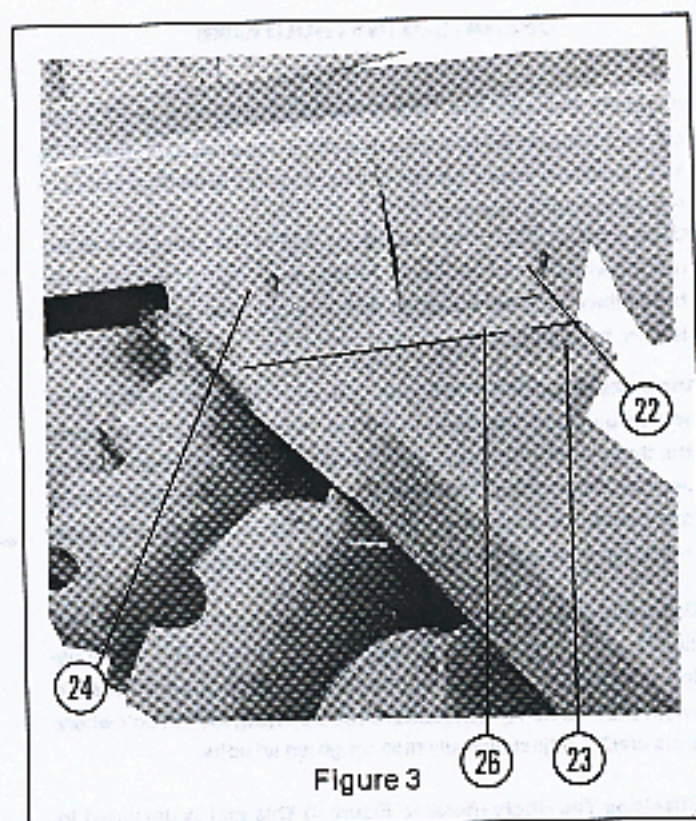

Figure 3
3. **Offsetting Rear Gang Bar:** (Refer to Figure 3) for ordinary conditions bolt(22) should be in the centre of lateral plate(23). When using disc as a double wide unit the rear gang bar is adjusted to maximum width to fill furrow. Remove two bolts(22), loosen bolt where slots are(24), adjust laterally then retighten all bolts.
- B. **Side to Side Leveling:** (Refer to Figure 3) In general, adequate levelling from side to side may be obtained by placing levelling washers(26) between angling plate on frame and gang bar. levelling washers are always used on narrow side(N) of disc only.